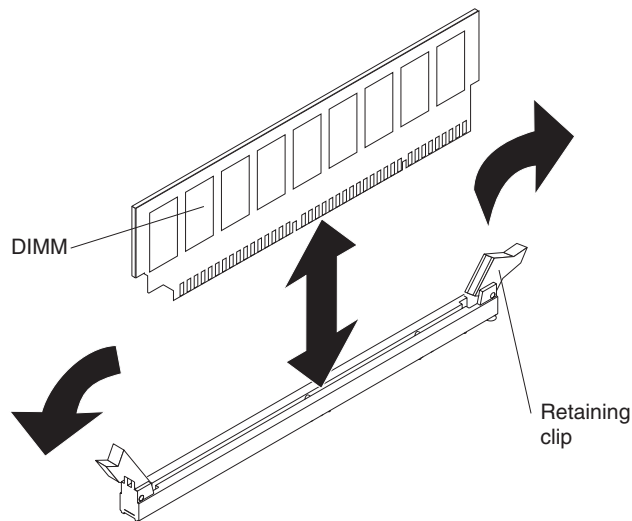

Figure 20. Installing a DIMM
4. Insert the DIMM into the connector (see Figure 20). Firmly press the DIMM straight down into the connector by applying pressure on both ends of the DIMM simultaneously. The retaining clips snap into the locked position when the DIMM is firmly seated in the connector. If there is a gap between the DIMM and the retaining clips, the DIMM has not been correctly installed. Open the retaining clips, remove the DIMM, and reinsert it.